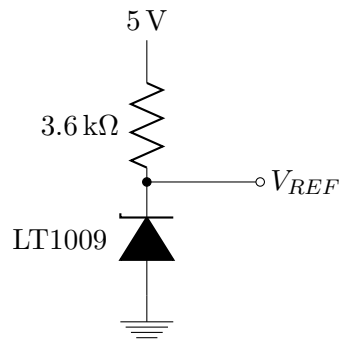

Figure 7: Schematic of the LT1009 precision voltage reference circuit.
1. Using Fig. 7 as a reference, build the regulator circuit on the breadboard. You should be able to find the LM317 pinout diagram from its datasheet, which you find from online. *As a general suggestion, it is important to keep your circuit well laid out and keep the connecting wires as short as possible. Cut the wires to the right length if necessary.* Fig.xxx shows